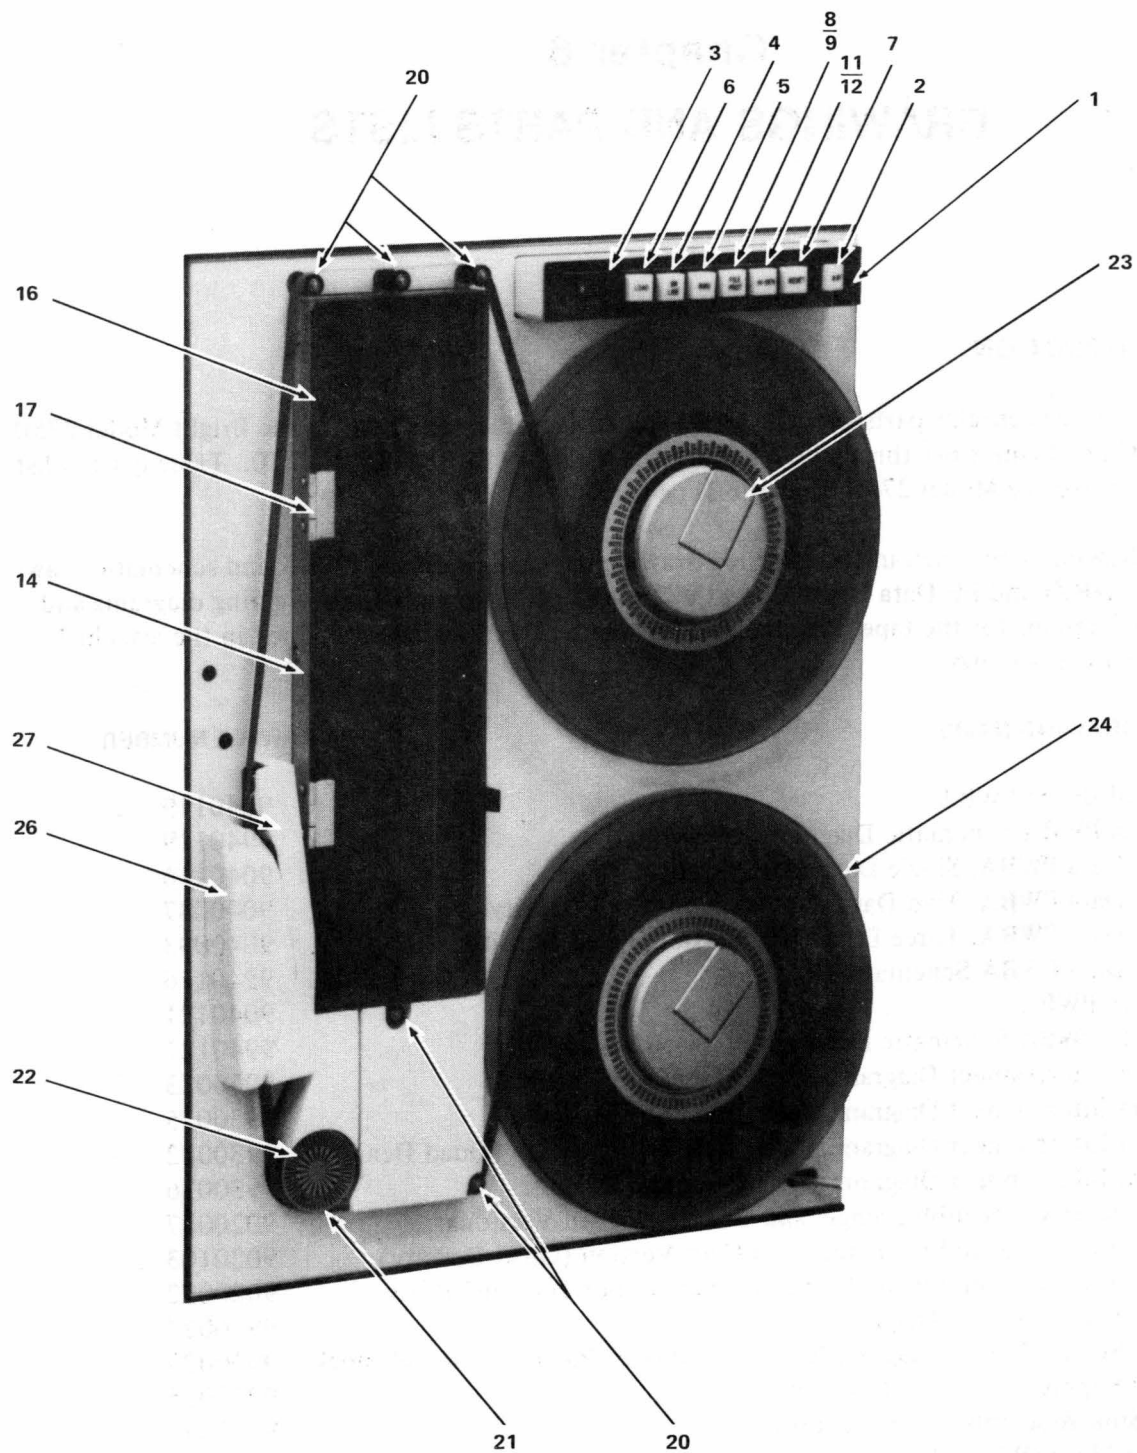

Figure 6-1. Model 2750 Parts Location, Front View
This chapter contains parts location views and replaceable parts lists for the Bright Model 2750 Magnetic Tape Unit. Figures 6-1 through 6-4 show parts locations for the Model 2750. Table 6-1 is a list of applicable parts for the Model 2750 Magnetic Tape Unit.
2. Not illustrated in figures 6-1, 6-2, 6-3 and 6-4.